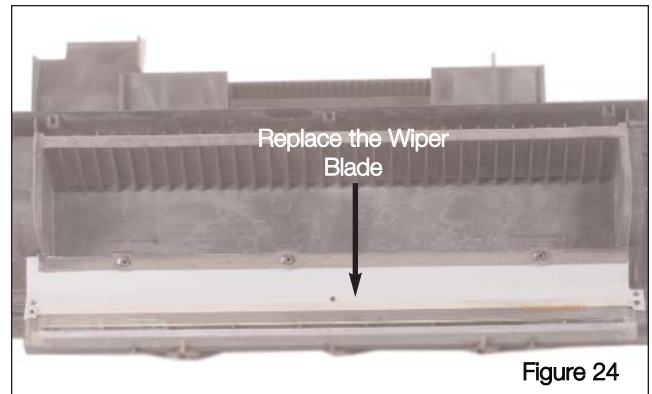

Figure 24
1. Install the new Wiper Blade, see Figure 24.